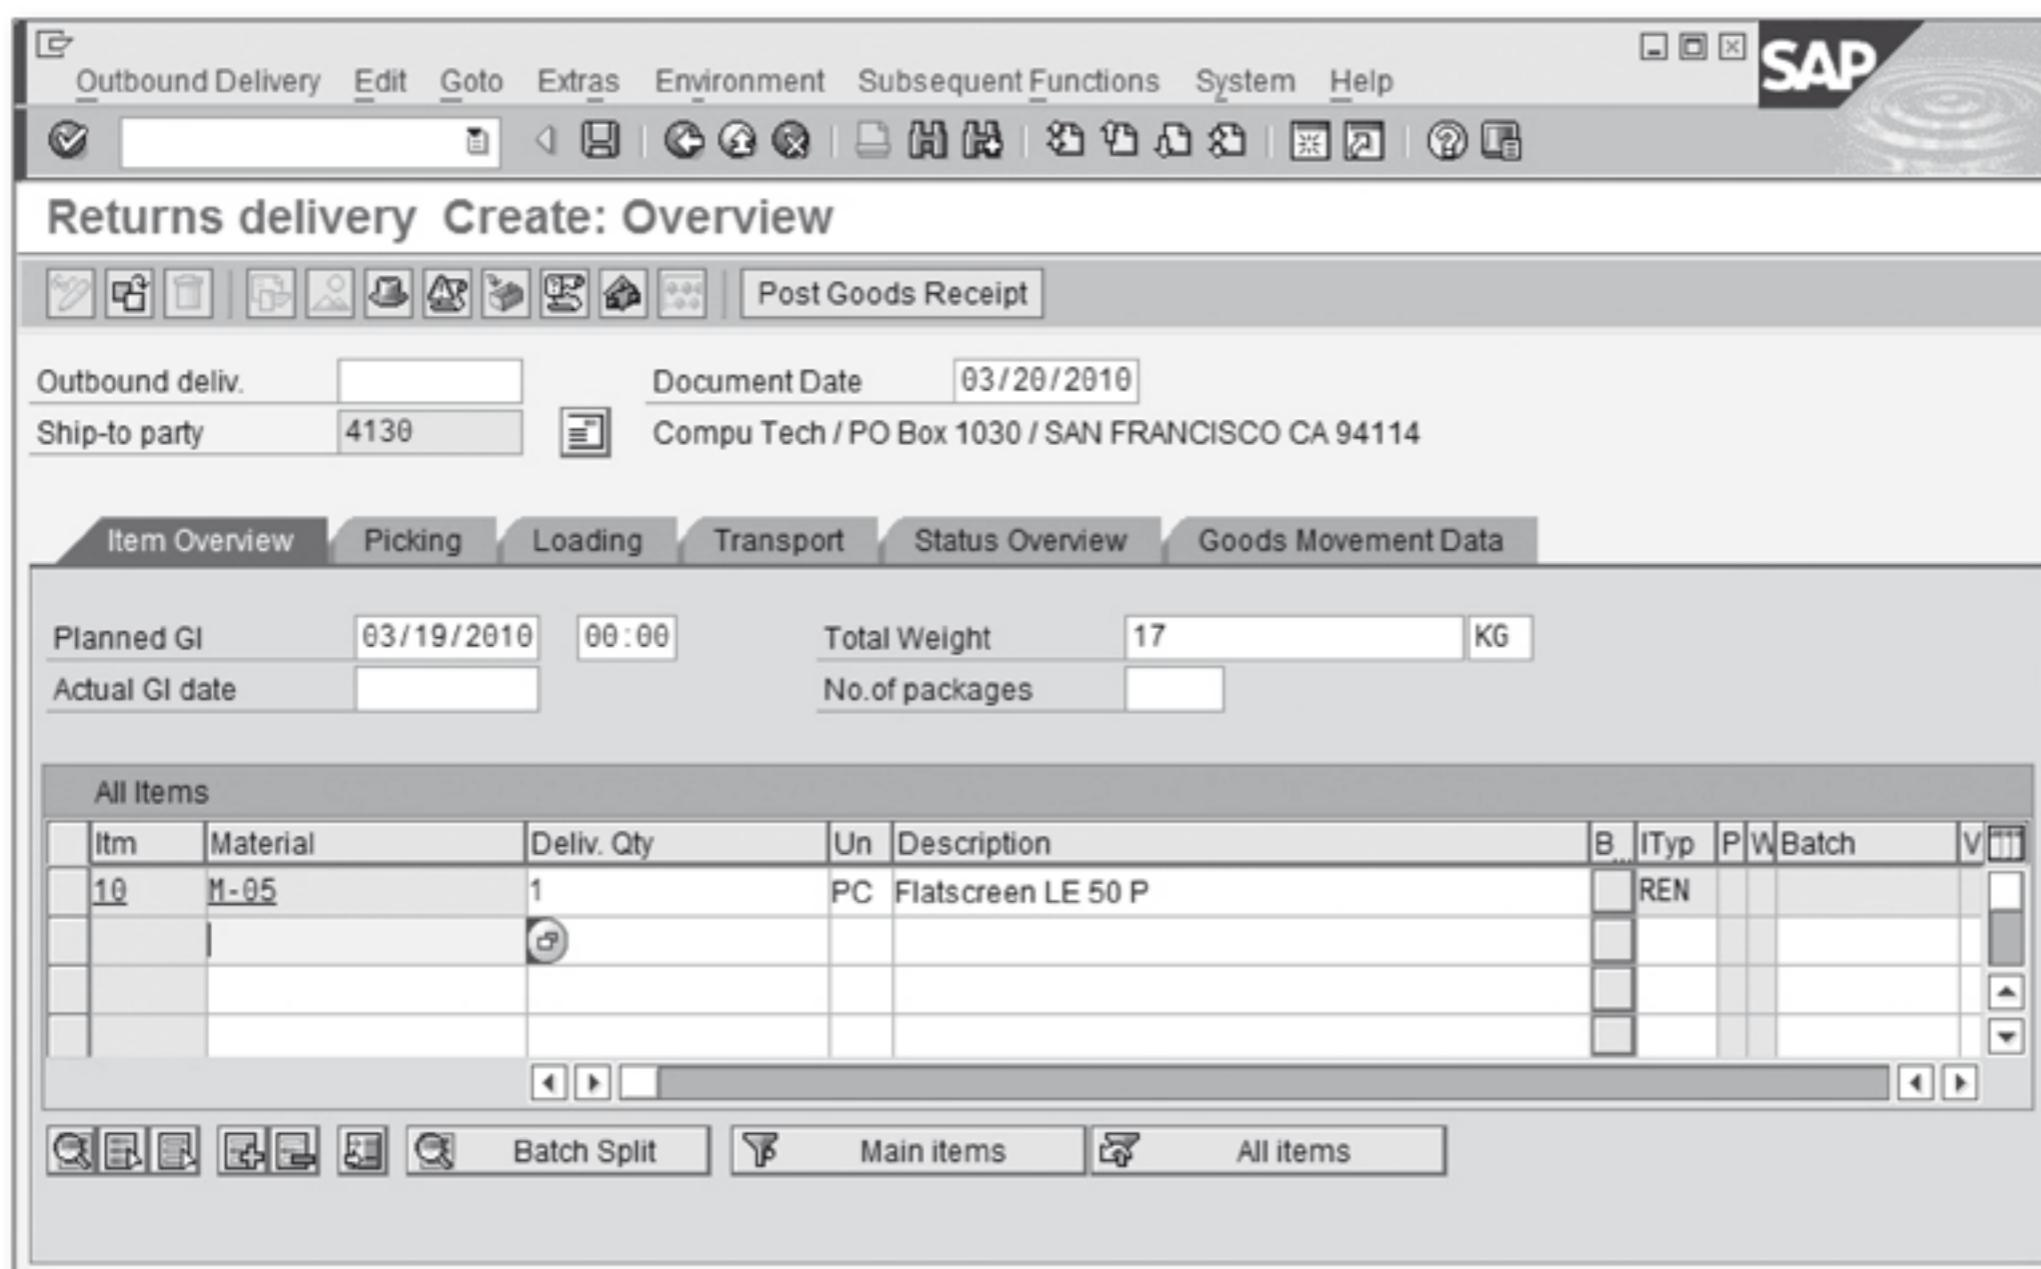

Figure 3.47 Returns Delivery Overview Screen
2. On the next screen, Returns Delivery Create: Overview, notice that all of the order header and item data relevant for the delivery document is copied straight from the returns order. Verify the entries, and click the Save button to complete, as shown in Figure 3.47.